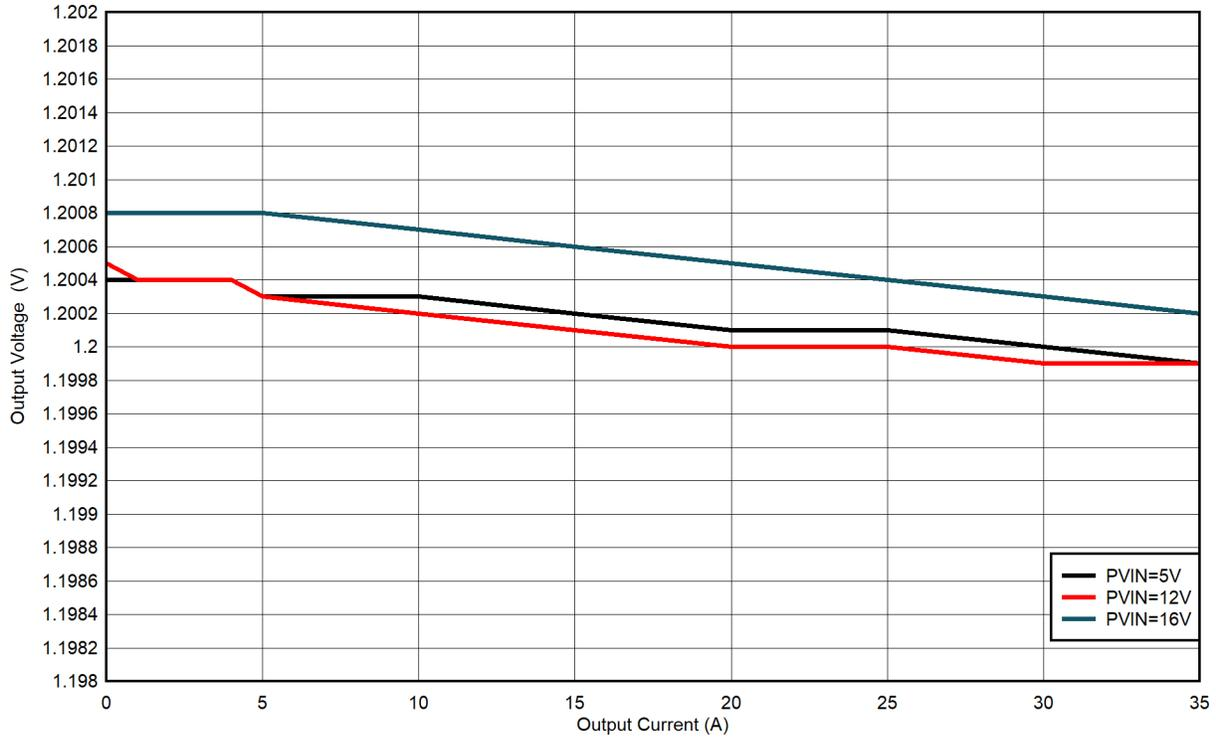

Figure 4-2. VOUT Load Regulation
5. Vary the load from 0 to 35 A_{DC}. V_{OUT} must remain in regulation as defined in Figure 4-2.